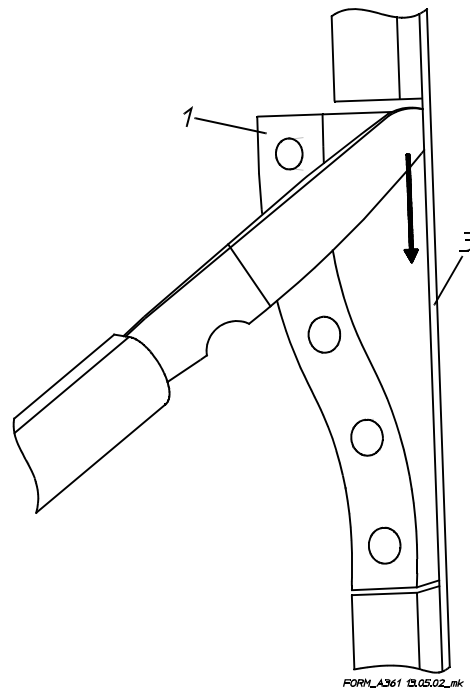

Fig. 1-2
- Detach the lead-through pad (1) from the masking frame (3) with a knife → Fig. 1-2 (page 2).